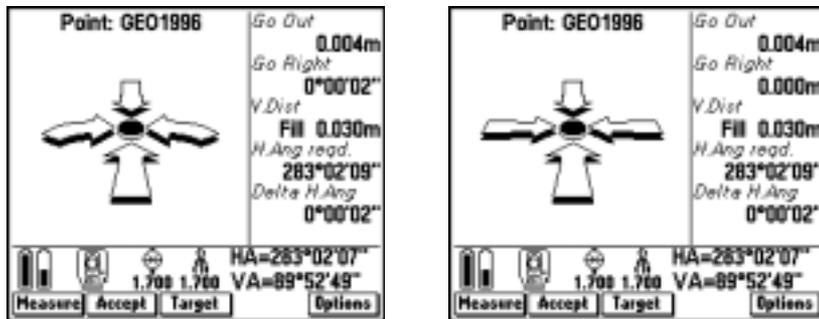

Figure 19.29 Graphical display screen – point located within tolerance
6. Press **Measure** again. If the measurement to the target is within the angular and distance tolerances set in the *Options* screen, four hollow/outline arrows appear and the center point is filled in. See Figure 19.29.